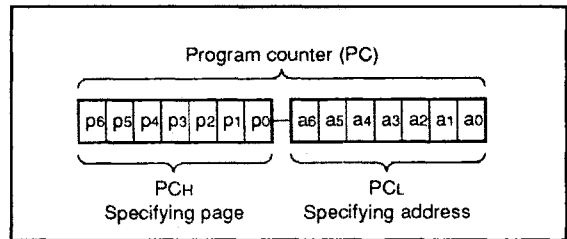
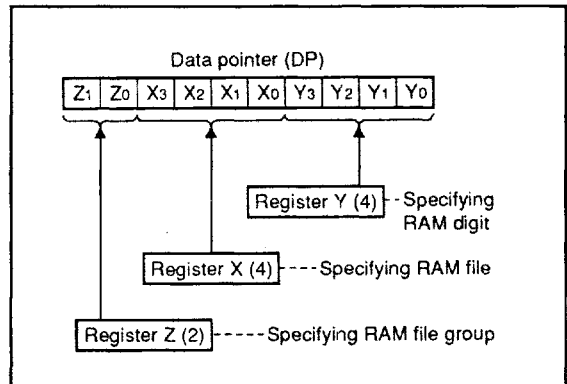
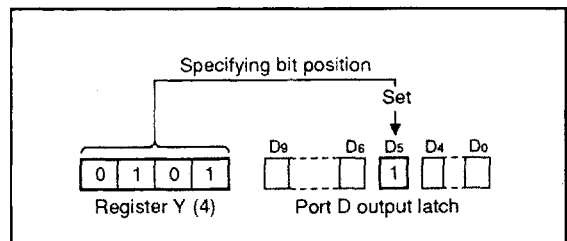

Fig. 7 Program counter (PC) structure
Fig. 8 Data pointer (DP) structure
Fig. 9 SD instruction execution example
(8) Program counter (PC)
Program counter (PC) is used to specify a ROM address (page and address). It determines a sequence in which instructions stored in ROM are read. It is a binary counter that increments the number of instruction bytes each time an instruction is executed. However, the value changes to a specified address when branch instructions, subroutine call instructions, return instructions, or the table reference instruction (TABP p) is executed. Program counter consists of PCH (most significant bit to bit 7) which specifies to a ROM page and PCL (bits 6 to 0) which specifies an address within a page. After it reaches the last address (address 127) of a page, it specifies address 0 of the next page (Figure 7). Make sure that the PCH does not specify after the last page of the built-in ROM.
(9) Data pointer (DP)
Data pointer (DP) is used to specify a RAM address and consists of registers Z, X, and Y. Register Z specifies a RAM file group, register X specifies a file, and register Y specifies a RAM digit (Figure 8). Register Y is also used to specify the port D bit position. When using port D, set the port D bit position to register Y certainly and execute the SD, RD, or SZD instruction (Figure 9).